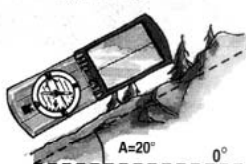

Figure 14B
- Read inclination in degrees at the scale. (Figure 14B)